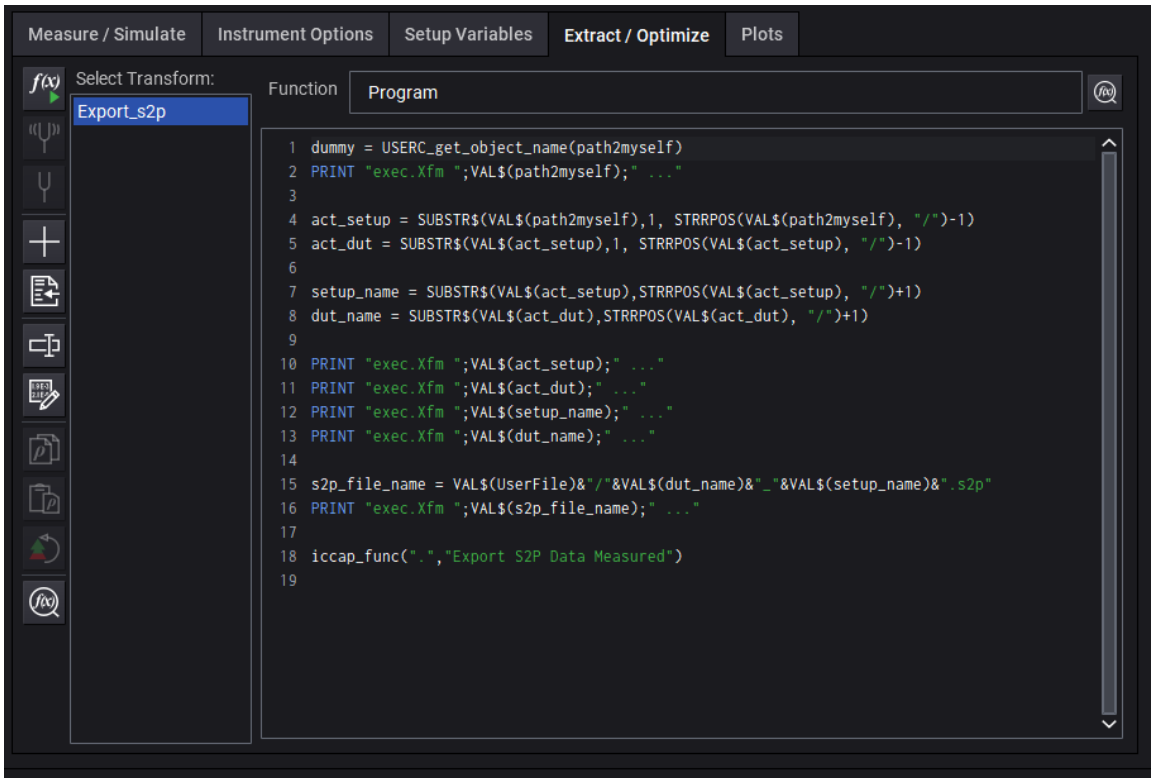

Fig. 8.10. Export the data in the .s2p format.
- 8.18 Export the data in the .mdm format to your own folder by clicking on "Extract/Optimize" On the top menu. To export the data in the s2p format, double click on "Export_s2p" (Fig. 8.10).